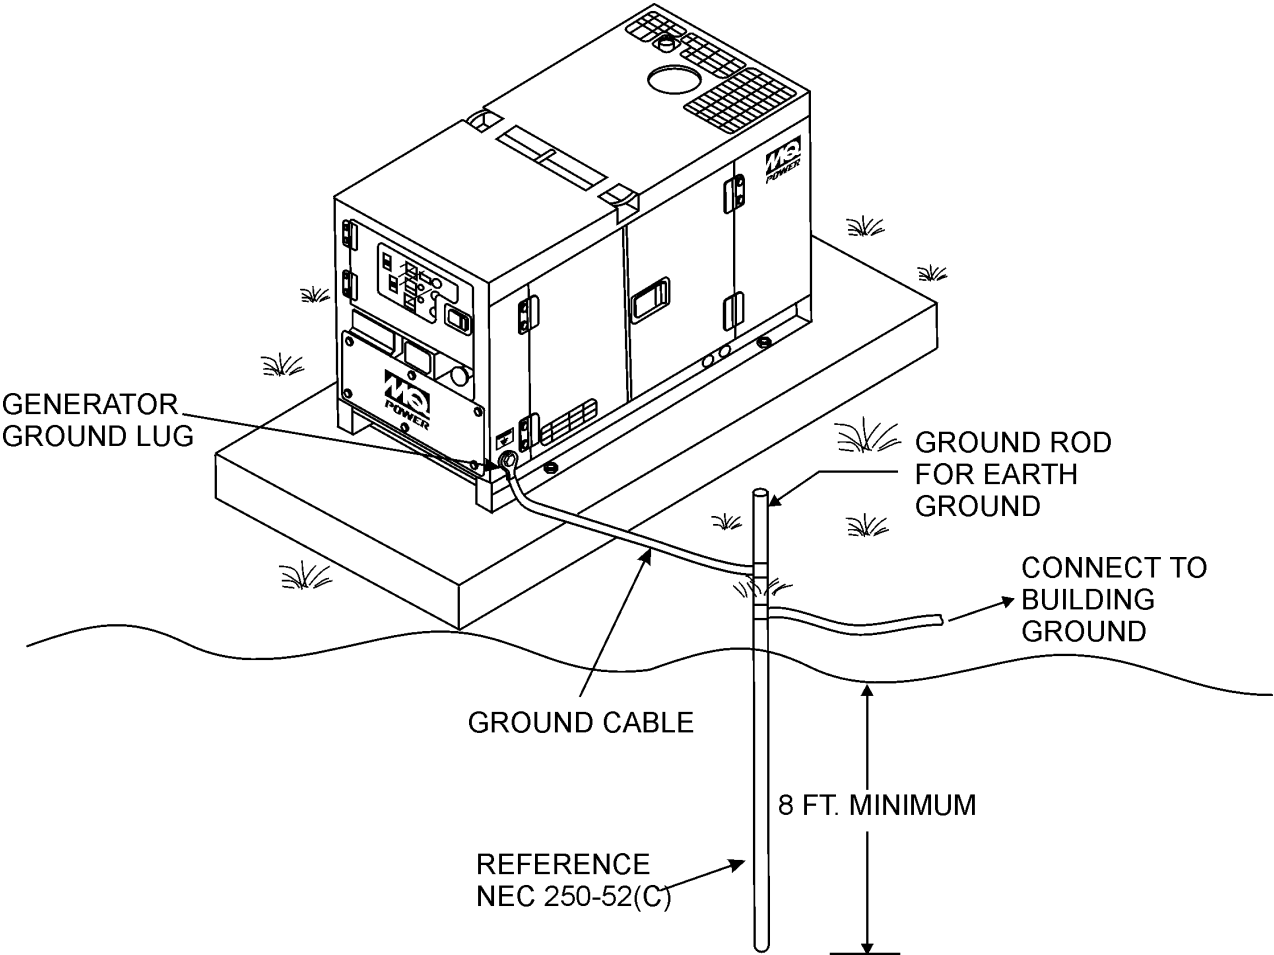

Figure 15. Typical Generator Grounding Application
2. When grounding the generator (Figure 15) connect the ground cable between the lock washer and the nut on the generator and tighten the nut fully. Connect the other end of the ground cable to earth ground.